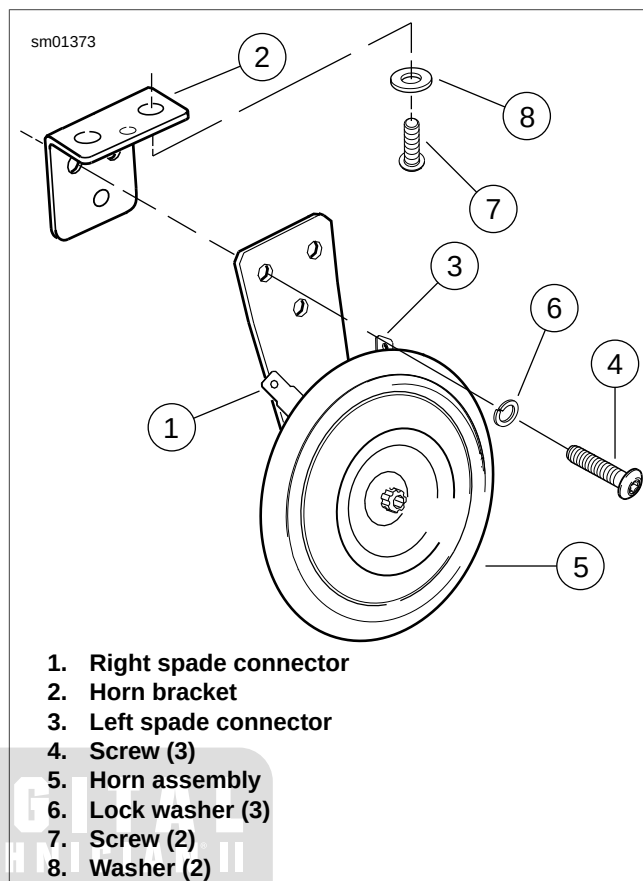

Figure 6-135. Horn Components (Models with Front Mounted Horn)
1. See Figure 6-135. Remove terminal clips from horn spade connectors (1, 3).
2. Remove screws (4) and lock washers (6) from horn bracket (2) and remove horn assembly (5).
4. Install the yellow wire with black tracer to the left spade connector (3) and the black wire to the right spade connector (1).